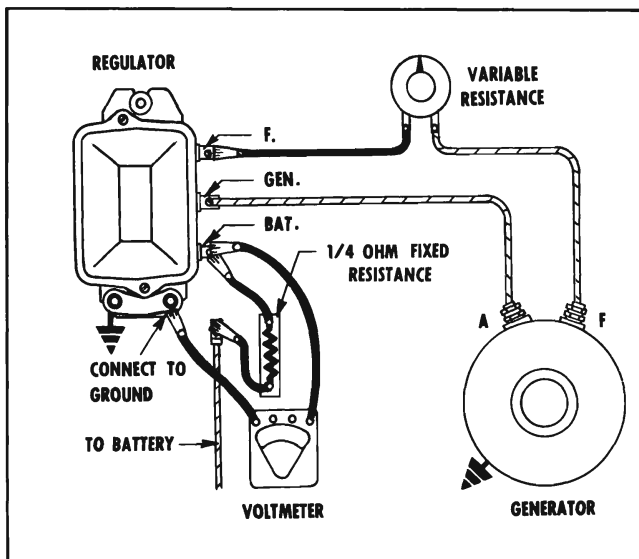

Fig. 11-40 Testing Double Contact Voltage Regulator
2. Connect a voltmeter from regulator "BAT" terminal to ground (Fig. 11-40).